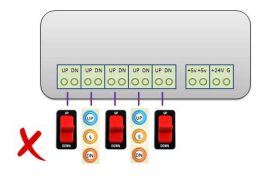

Fig.6
- Does not support fixed position switch mode and momentary switch mode simultaneously. See below picture. (fig. 6)